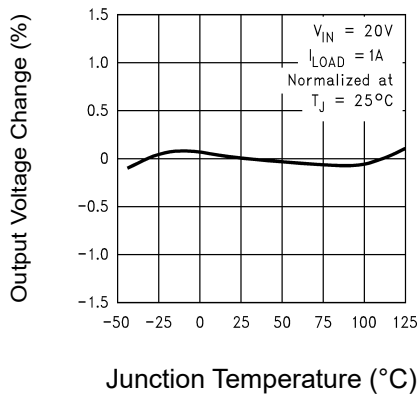

Figure 1: Normalized Output Voltage
Note 5: External components such as the catch diode, inductor, input and output capacitors, and voltage programming resistors can affect switching regulator system performance. When the LM2575 is used as shown in the Figure 1 test circuit, system performance will be as shown in system parameters section of Electrical Characteristics.
10.1 Typical Characteristic (Circuit of Figure 1)